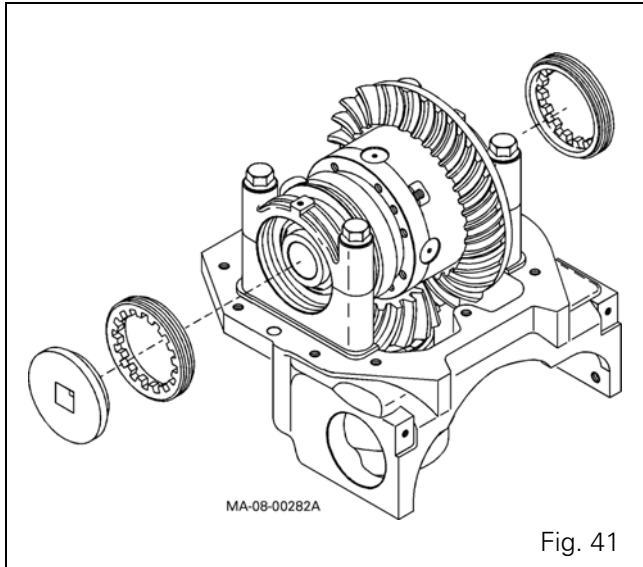

Fig. 41
47. Assemble and tighten the two adjustment nuts in the differential housing using special tools ref. CA119030 and CA119149 (see § J) to eliminate the backlash and slightly preload the differential bearings (Fig. 41).